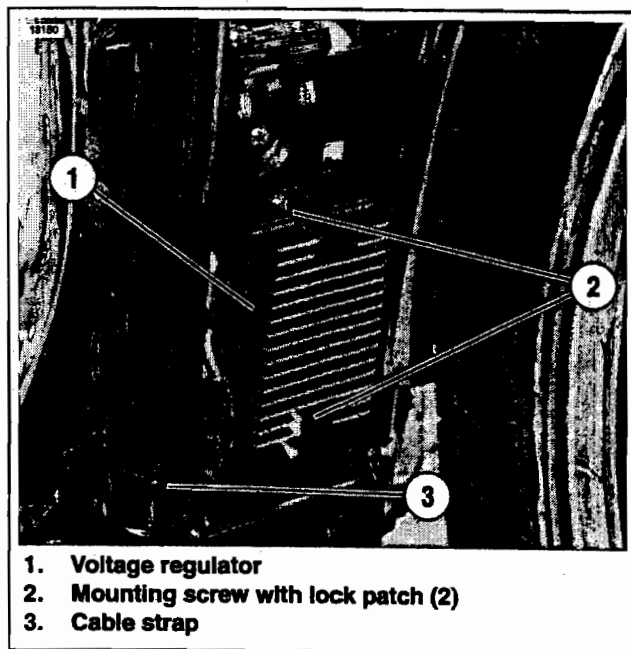

Figure 4. Mount Voltage Regulator
7. See Figure 4. Mount voltage regulator (1) onto repositioning bracket with remaining two **new** screws (2) from recall kit. Tighten screws to 30-60 in-lbs (3.4-6.8 Nm).
8. Locate cable strap in recall kit. Wrap cable strap (3) around stator harness, neutral switch wire and vehicle frame. Tighten cable strap securely. Cut off excess strap material.